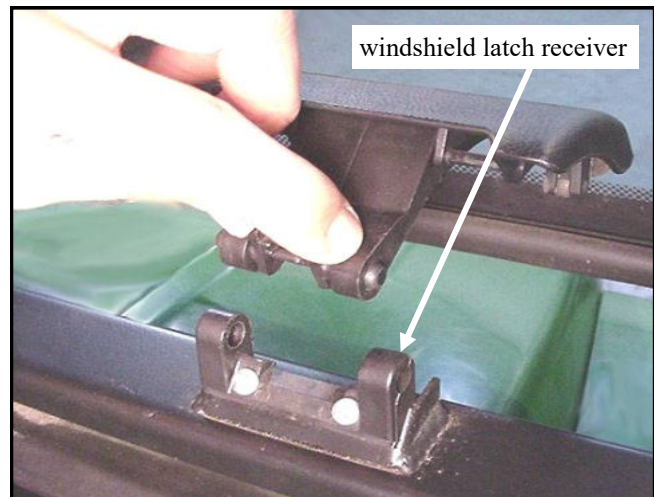

Fig. 13.3
13.3 Attach windshield latches to windshield latch receivers on the cowl by squeezing tabs to retract spring-loaded pins. See fig. 13.3. Lift up on bottom of windshield while closing latches. Check alignment of windshield with vertical side tubing and tighten hinge hardware. **Note: hinges are plastic components. Do not overtighten. Torque to 7 ft./lbs. max..**